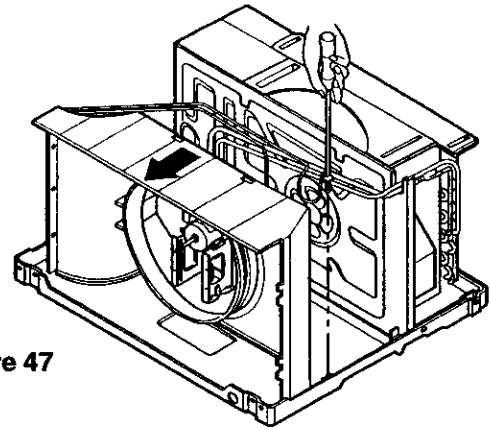

Figure 47
3. Remove the shroud. (See Figure 47)